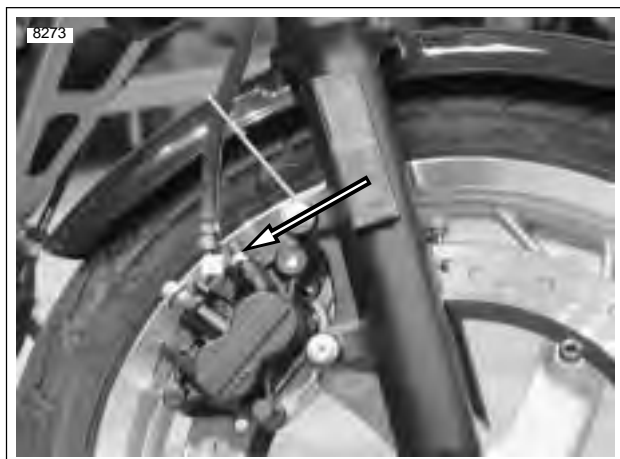

Figure 2-26. Front Brake Caliper Bleeder Valve (Metric) for Draining Front Brake System
1. See Figure 2-26. To drain brake fluid from front brake system: